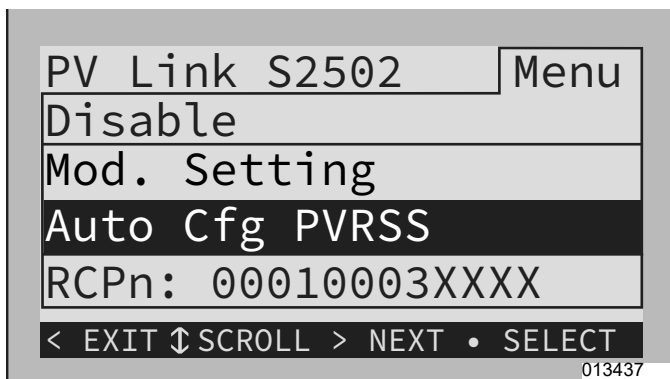

Figure 7-14. PV Link - Auto Cfg PVRSS
- a. See Figure 7-14. If the PV Link goes directly to “low sun,” disable the device and select “Auto Cfg PVRSS.”